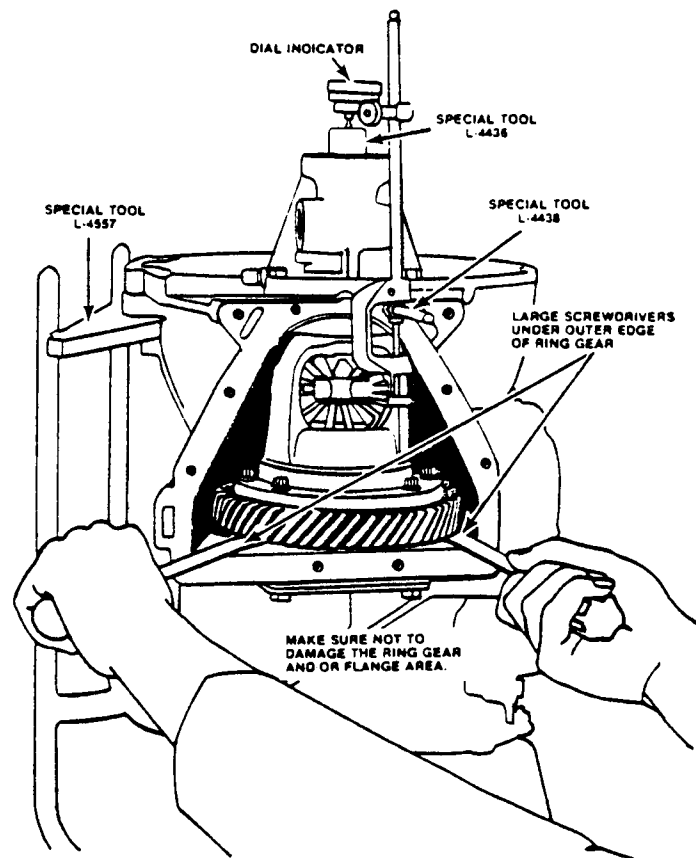

FIGURE 11
7. Place a large screwdriver to each side of the ring gear and lift with enough force to take up the clearance between the bearings. Check the dial indicator for the amount of end play, reference Figure 11. Caution should be used not to damage the transmission case and/or differential cover sealing surface.